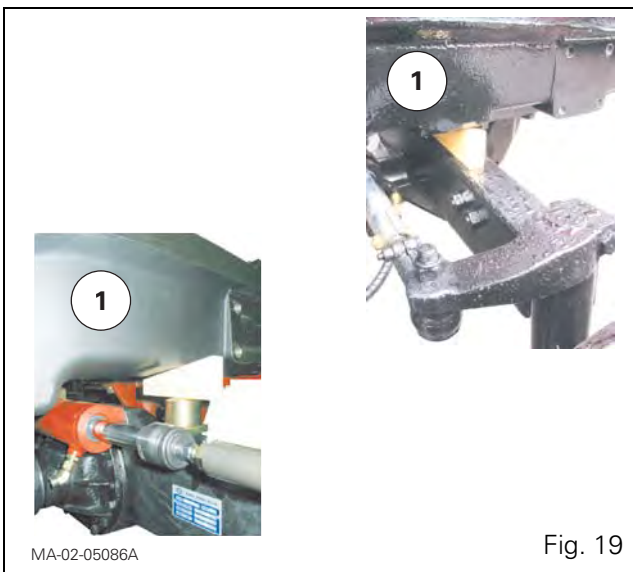

Fig. 19
- of the front axle (4WD),by inserting a suitable block on either side of the frame (1) as shown in Fig. 19.